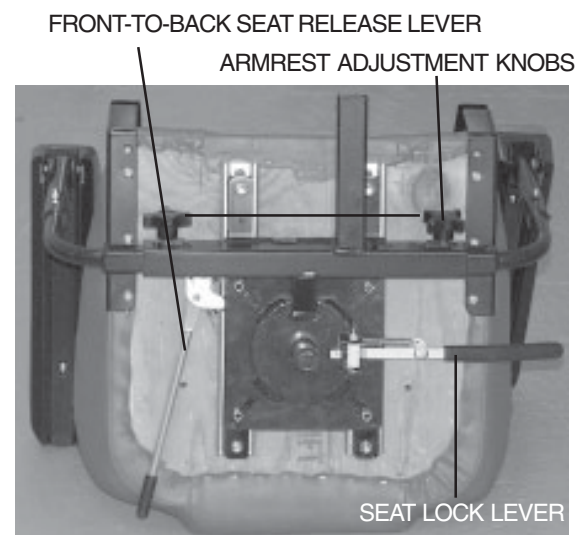

Figure 15. Seat Adjustments
1. Pull out the front-to-back seat release lever. See figure 15.
1. Push down on the seat lock lever to unlock the seat. See figure 15.